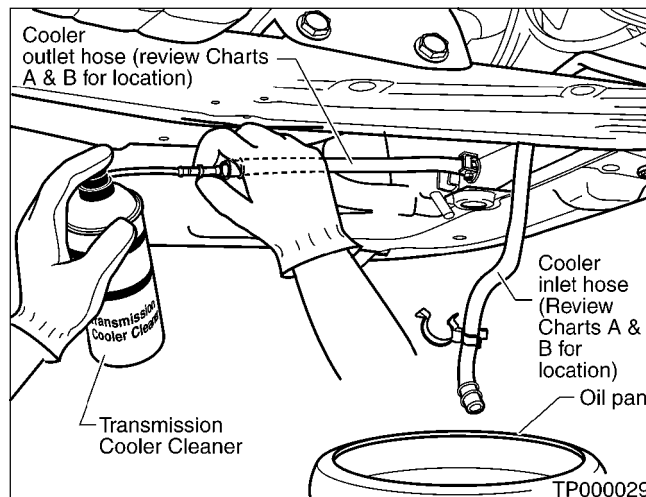

Figure 4
5. Insert the "extension adapter hose" from a can of Transmission Cooler Cleaner (Nissan P/N 999MP-AM006) into the cooler Outlet hose (see Figure 4).
3. Insert the “extension adapter hose” from a can of Transmission Cooler Cleaner (Nissan P/N 999MP-AM006) into the Outlet hose of the oil cooler in the radiator (see Figure 4 on page 4).